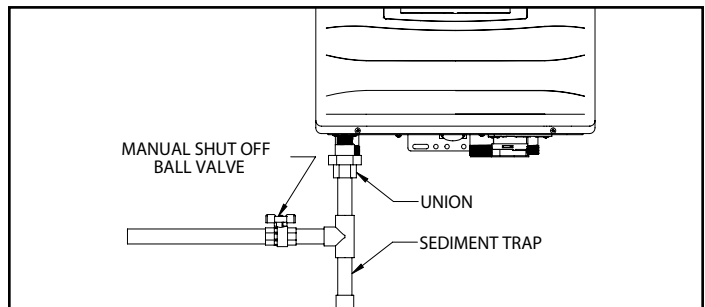

Figure 37 - Gas Line with Shut-Off and Sediment Trap Detail
- The National Fuel Gas Code (NFPA 54) requires that a sediment trap (drip leg) be installed in the gas line on appliances not so equipped. The drip leg must be accessible, a minimum of 3" in length, and not subject to freezing conditions. See Figure 37.
- A manual gas shut-off valve should be installed in the gas supply line close to the water heater. See Figure 37 for detail.